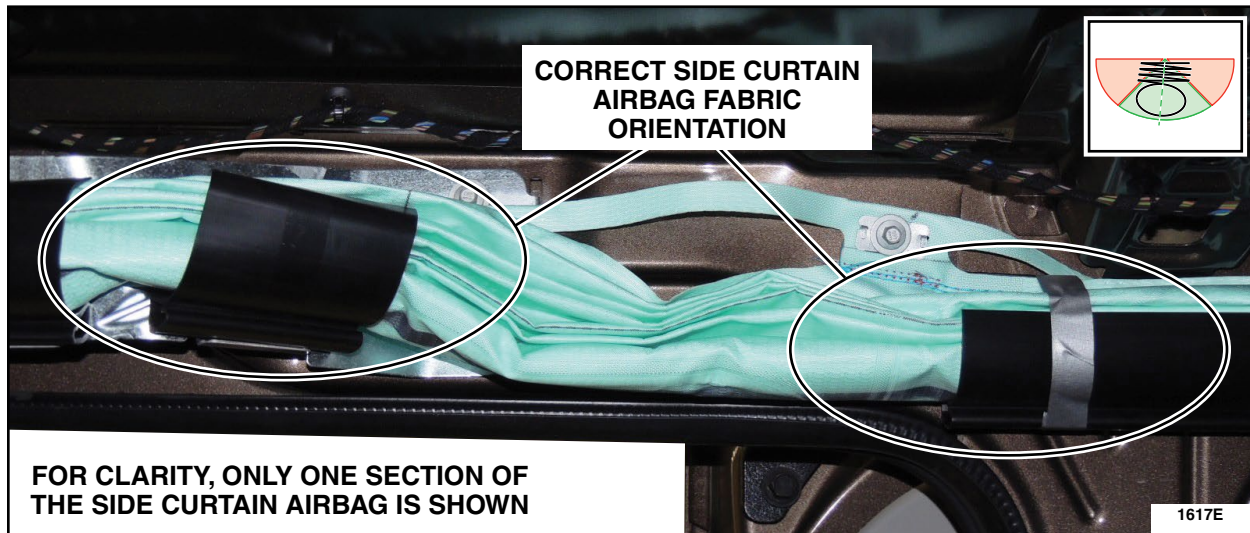

FIGURE 4
4. For all portions of the side curtain airbag that **DO NOT PASS** inspection, adjust the side curtain airbag fabric to match the correct orientation shown in Figure 4.